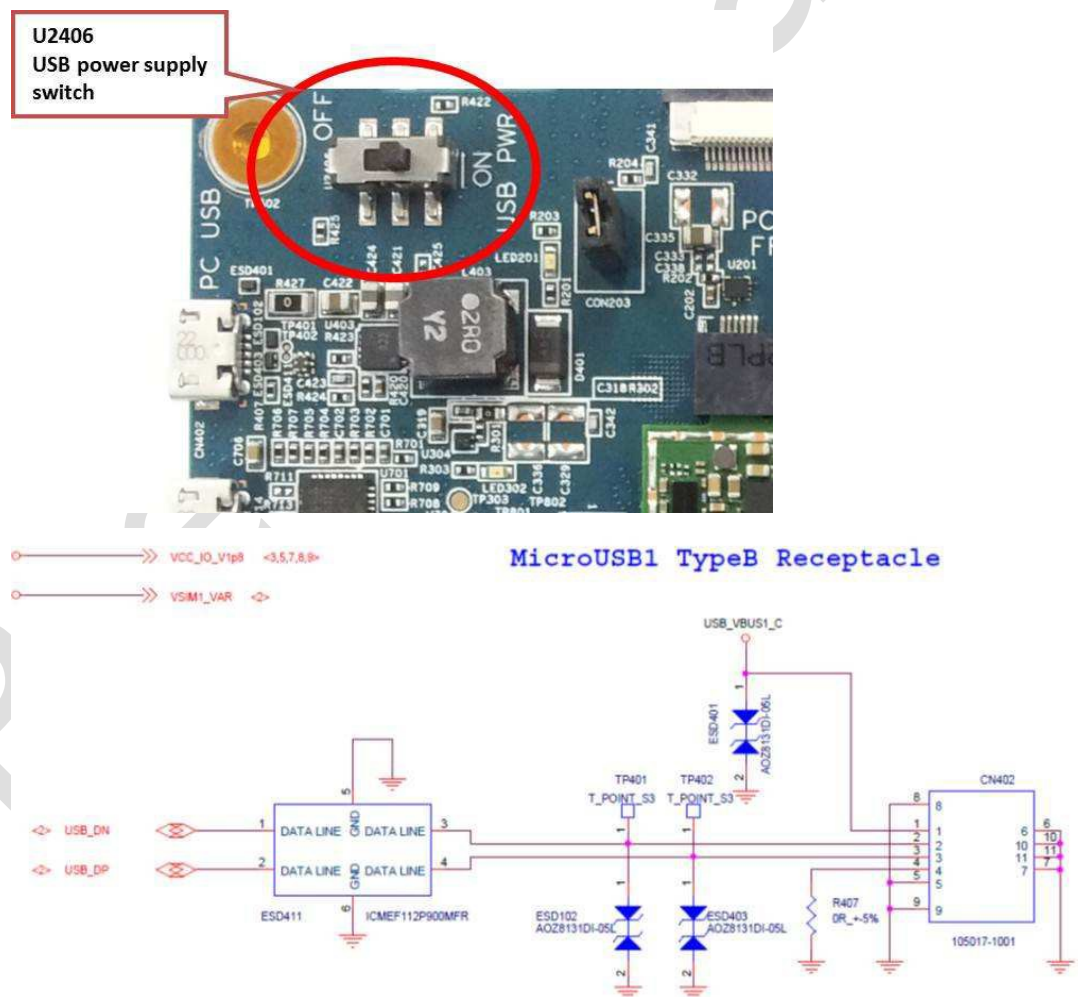

Figure 8 USB connector for modem supply
Only red LED will be turned on as long as power is supplied. (see Figure 8)
- c. See Figure 8 for supply from USB (green LED LED201 on, red LED LED302 on)